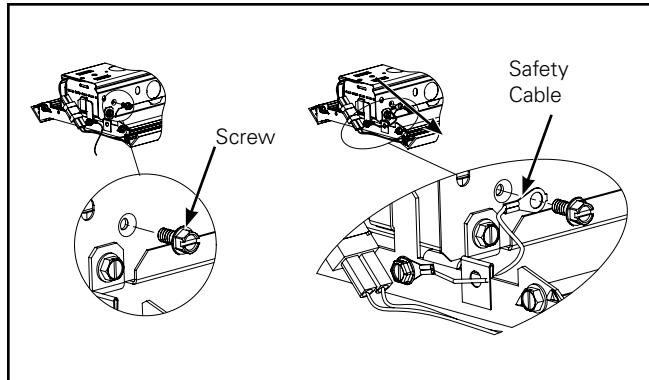

Figure 6.
6. To install safety cable remove screw from channel assembly and reattach safety cable with the same screw. (Figure 6.)